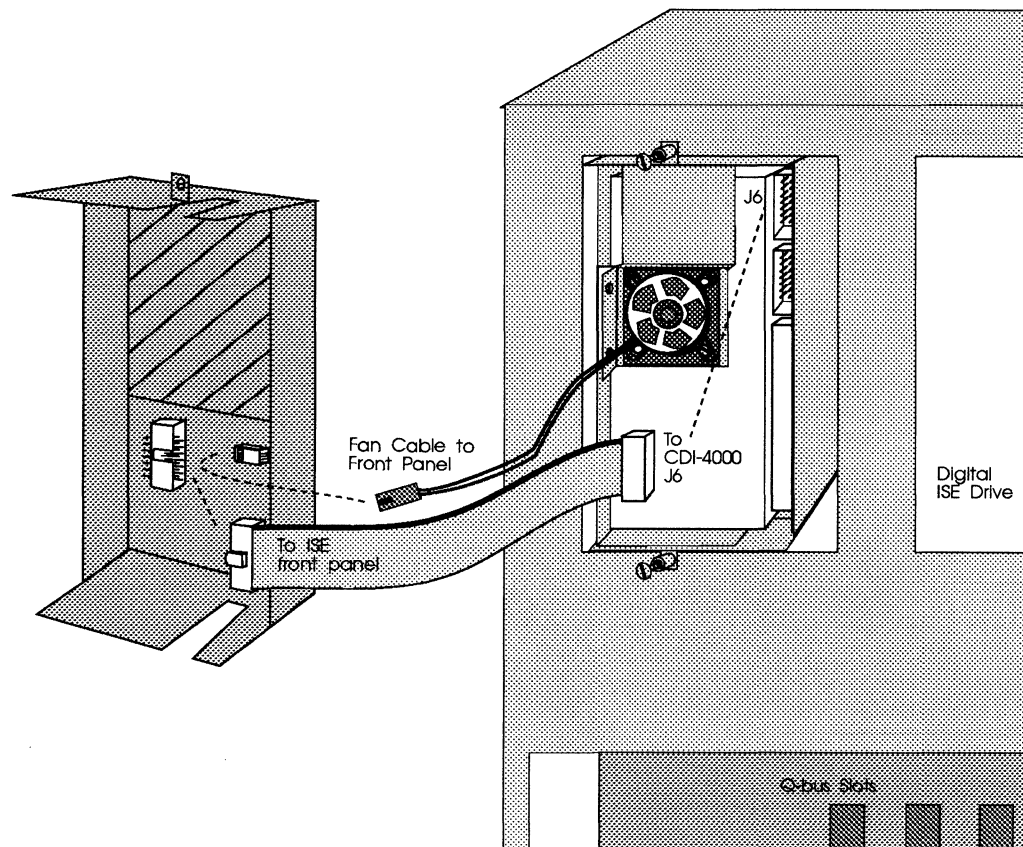

Figure 4-9: CDI-4000-SE front panel connections
- 15 Connect one end of the 14-pin cable to J6 of the CDI-4000 and the other end into the back of the ISE front panel display. See Figure 4-9.
- 16 Connect the fan wire to the back of the ISE front panel display. See Figure 4-9.